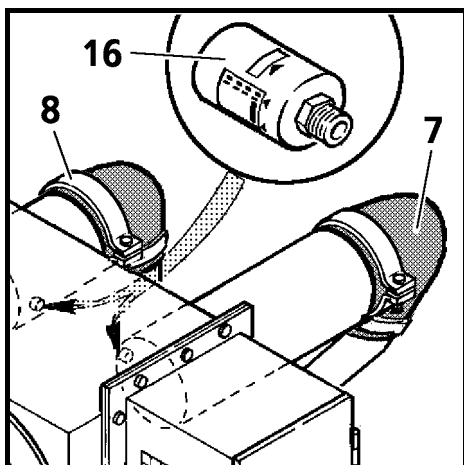
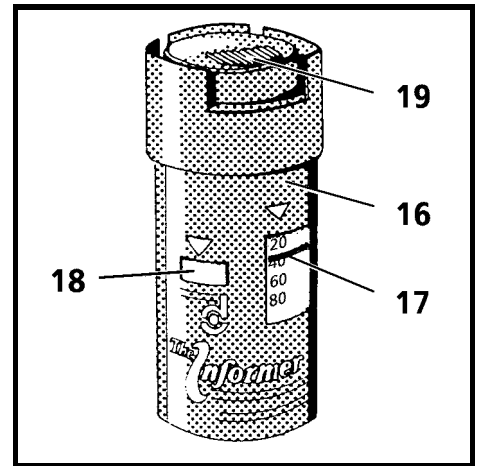

Fig. 31
Fig. 33
The vacuum indicator (Fig. 31, Fig. 33, pos. 16) stores the maximum recorded vacuum pressure on the filter outlet, during the diesel engine operation.
When the red stripe (Fig. 33, pos. 17) appears in the window 18, the maximum permissible vacuum of 50 mbar has been reached.
The rubber hoses and elbows between filter housing and engine (Fig. 31, pos. 7) must be checked for damage, wear, tightness and leaks whenever the filter elements are replaced.